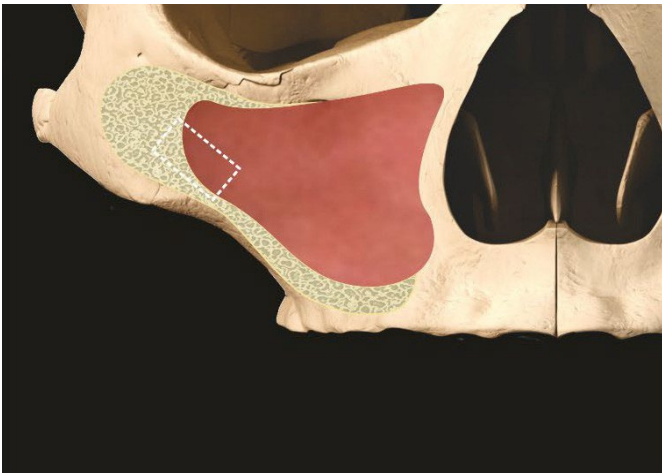

Figure 5
1. A small sinus window is cut on the lateral aspect of the maxillary sinus and the block of the bone is removed (Figure 5). The lining of the sinus is reflected, attempting to keep it intact if possible. Thorough reflection of the lining is essential.